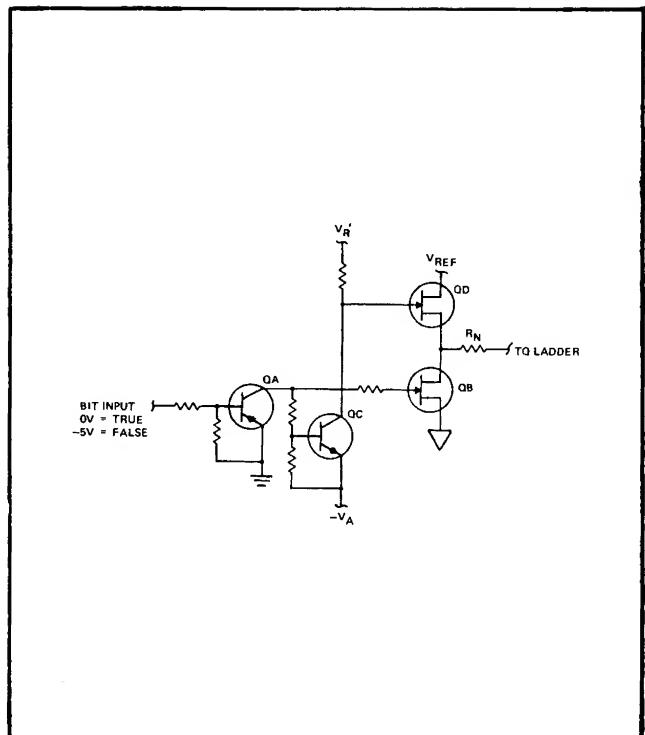

Figure 3-4. LADDER DRIVER (SIMPLIFIED)
3-34. DRIVERS. Each ladder resistor is connected to V_{REF} common using a driver such as the one shown in Figure 3-4. When the bit command is high (OV), QA and QC are both turned off, which applies $-V_A$ to the gate of QB and V_R' to the gate of QD. This condition switches QD on and QB off, thus applying V_{REF} through QD to the ladder resistor R_N . Absence of a bit command will apply a low (-5V) to the base of QA which causes it to conduct. The resulting OV collector signal switches on gate QB and the driver QC. Conduction of QC applies $-V_A$ to the gate of QD, turning it off. As a result, V_{REF} common is applied through QB to the ladder resistor R_N .